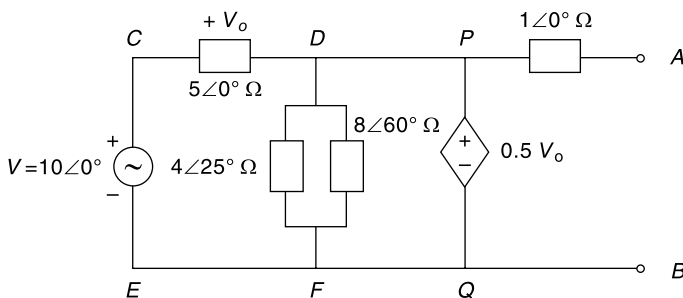

Fig. 6.30 Circuit of Ex. 6.29
6.29 Find Thevenin's equivalent network across AB in Fig. 6.30.